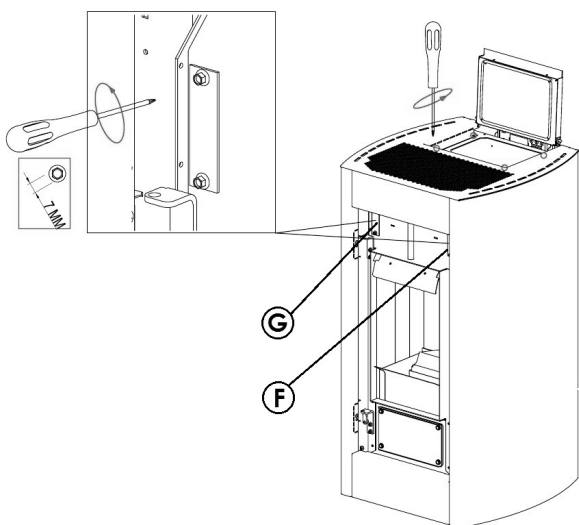

Fig. 84 - Plates removal
- When the stove is cool, remove plate "F" by loosening the two screws (see **Fig. 84**).